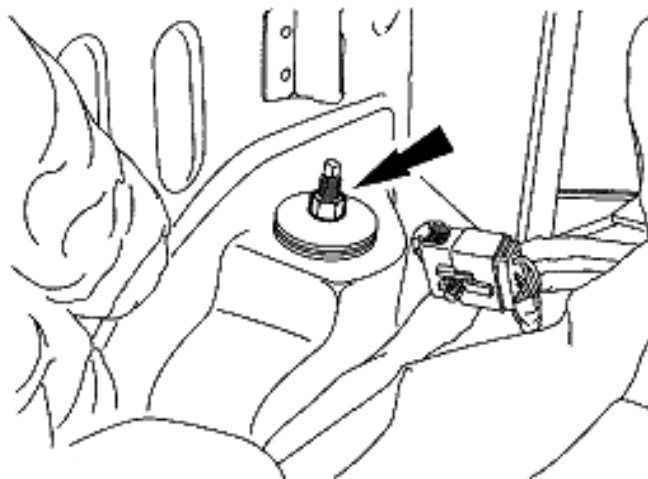

Fig. 6
6. Remove the retaining washer/isolator from the shock upper stud mount and remove the shock from the vehicle (Fig. 6).